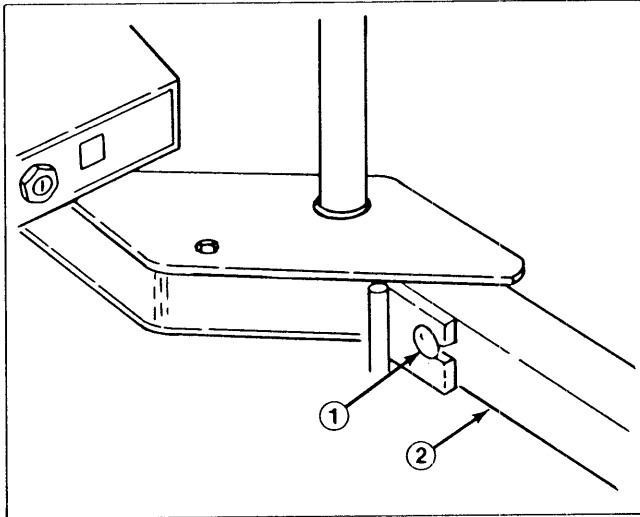

Figure 1
2. Rotate sulky out until it contacts the stop and install carriage bolt and flange nut to secure sulky into proper position (Fig. 1).